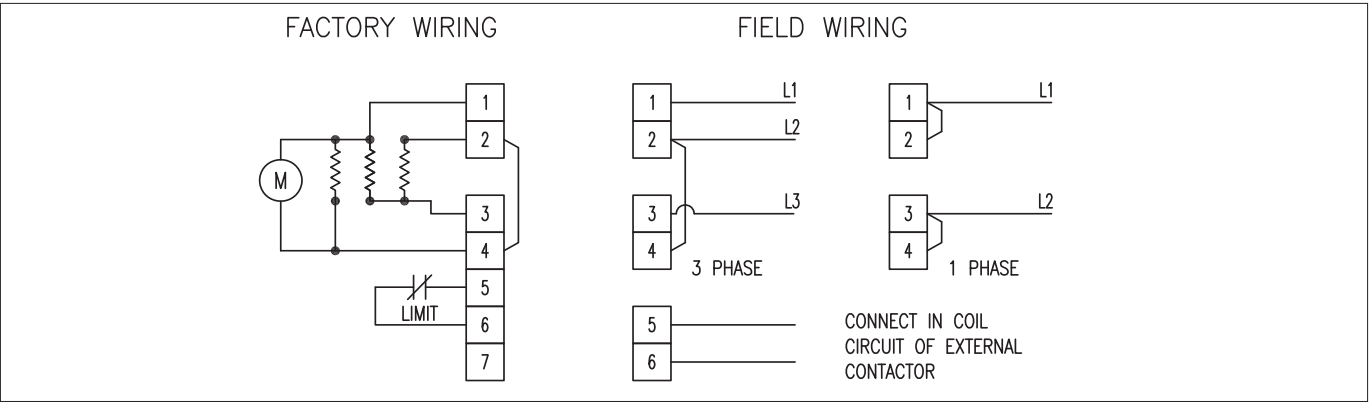

Figure 3A – GE Series 2–10 kW wiring schematic with hi-limit option. 208 V and 240 V models.
If the wiring schematics of Figures 3A–3G, page 5–7, do not match your configuration, check the inside access panel of the unit for specific wiring schematic. Alternatively, all wiring schematics are available online at: www.thermon.com.
If the wiring schematics of Figures 3A–3G, page 5–7, do not match your configuration, check the inside access panel of the unit for specific wiring schematic.
1. To operate heater, ensure power supply is properly connected as specified in the wiring schematic (refer to Figures 3A–3G, page 5–7).